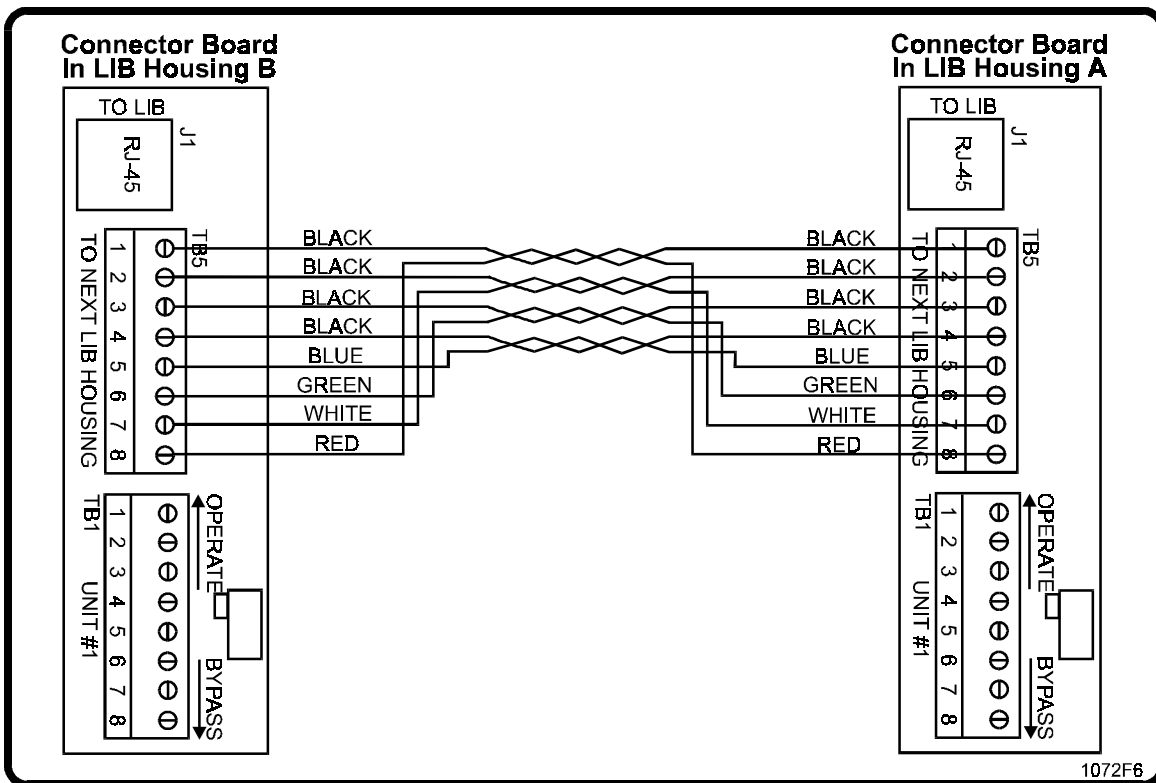

Figure 6. Single Entrance LIB Cabling.
- b. **A 4 twisted pair cable** between the connector boards of each LIB housing in the stack, as shown in Figure 6 (applies only to installations with multiple LIB housings).